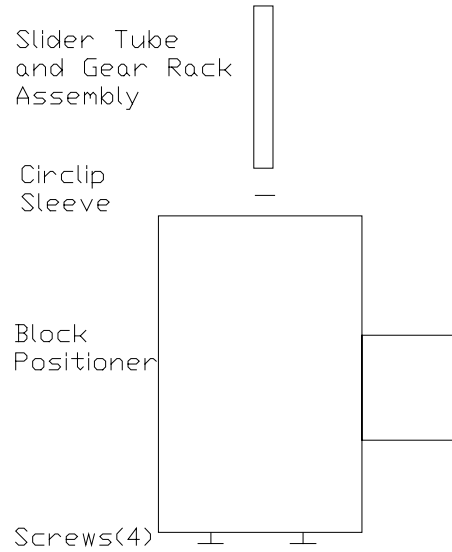

Figure 1. The ACMS Sample Transport Assembly.
2. Remove the slider tube and gear rack assembly from the block positioner (**Figure 1**).
5. Reinstall the slider tube and gear rack assembly into the block positioner (**Figure 1**). It is inserted from the top of the block positioner.